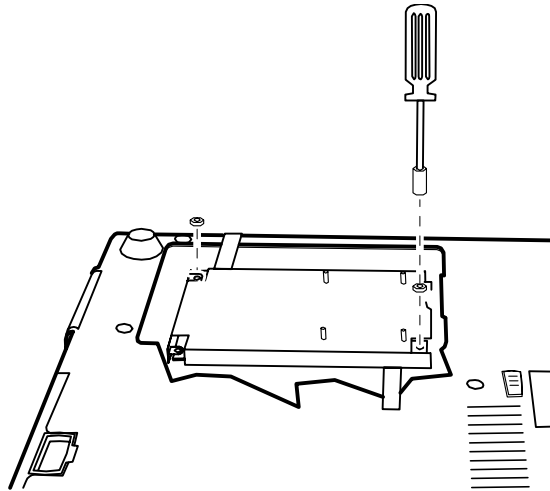

FIGURE 7-14. REMOVING THE CPU MODULE
5. REMOVE THE TWO HEXNUTS AND PULL UP THE RIBBONS TO LIFT THE IMM BRACKET AND UNPLUG THE CONNECTORS. (REFER TO FIGURE 7-14 ON NEXT PAGE).
2. PLUG THE CONNECTORS ON THE CPU MODULE TO THE CORRESPONDING CONNECTORS ON THE SYSTEM BOARD. THEN REPLACE THE TWO HEXNUTS. (REFER TO FIGURE 7-14 EARLIER).